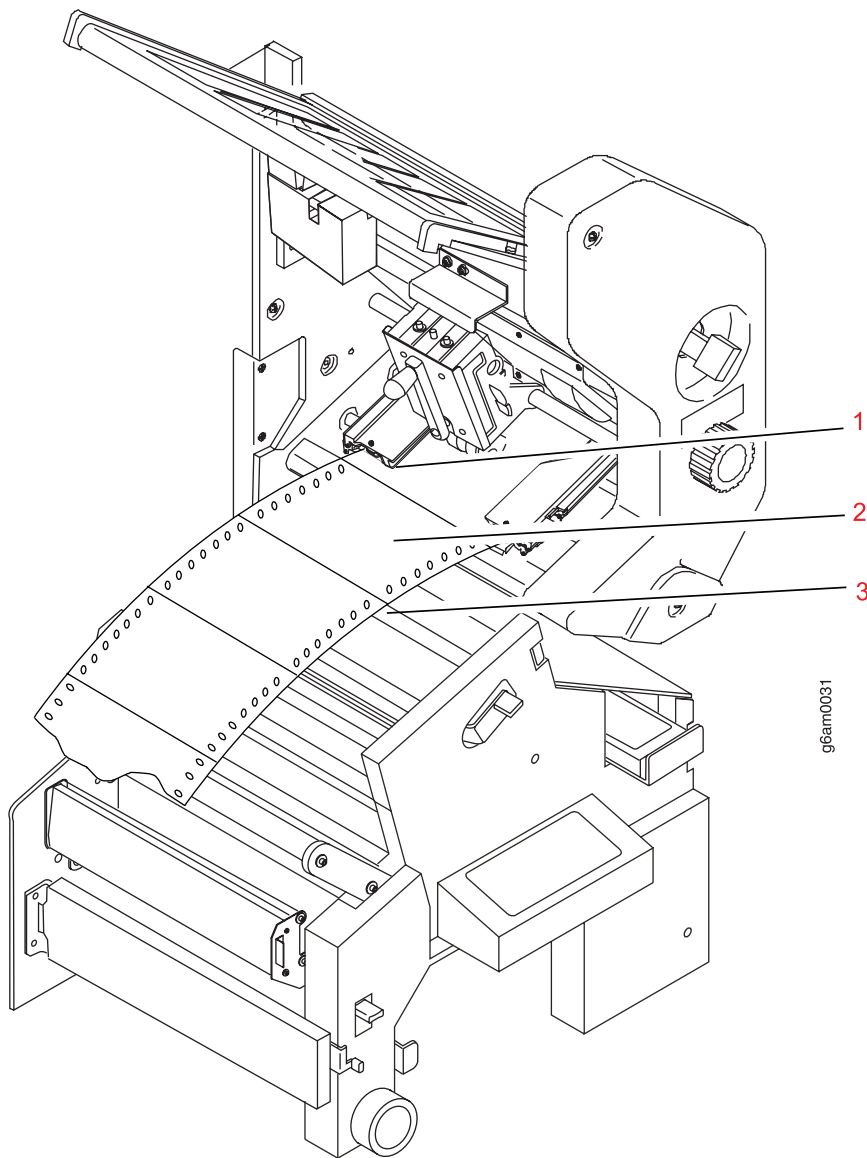

Figure 92. Reestablishing forms alignment
- a. Select **Forms Feed** on the printer control panel to align the form perforation of the first full page with the correct length alignment mark on the lower tractors. See Figure 92 on page 234 for details.